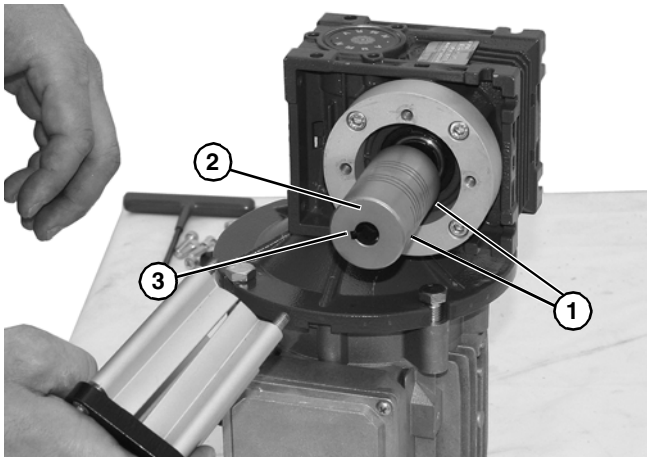

Figure 27
4. Loosen two (2) set screws (**Figure 27, item 1**) and detach coupling (**Figure 27, item 2**) from gear reducer.
5. Remove gear reducer output shaft key (**Figure 27, item 3**).
10. Attach coupling (**Figure 27, item 2**) to gear reducer shaft. Tighten two set screws (**Figure 27, item 1**) to 32 in-lb (3.7 Nm).
6. With output shaft key (**Figure 27, item 3**) in keyway, attach coupling (**Figure 27, item 2**) to gear reducer shaft. Tighten two set screws (**Figure 27, item 1**) to 32 in-lb (3.7 Nm).